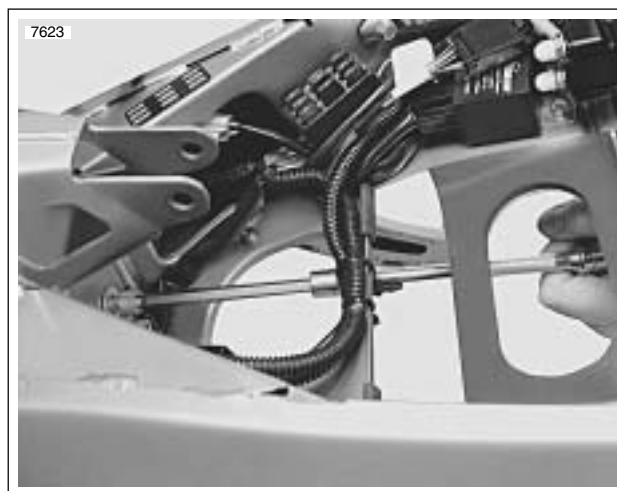

Figure 3-14. Removing Rear Motor Mount Bolts
32. See Figure 3-14. Remove rear motor mount bolts.